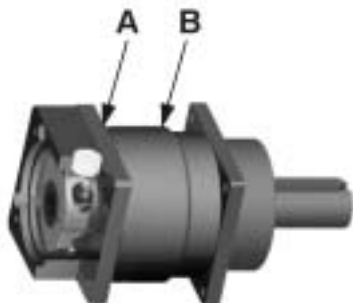

Fig. 6.5
- ➔ Measure the surface temperature on the drive flange (A) and on the housing (B) (Fig. 6.5). Consult our technical service department (see 1.1), if the temperature exceeds +90 °C.